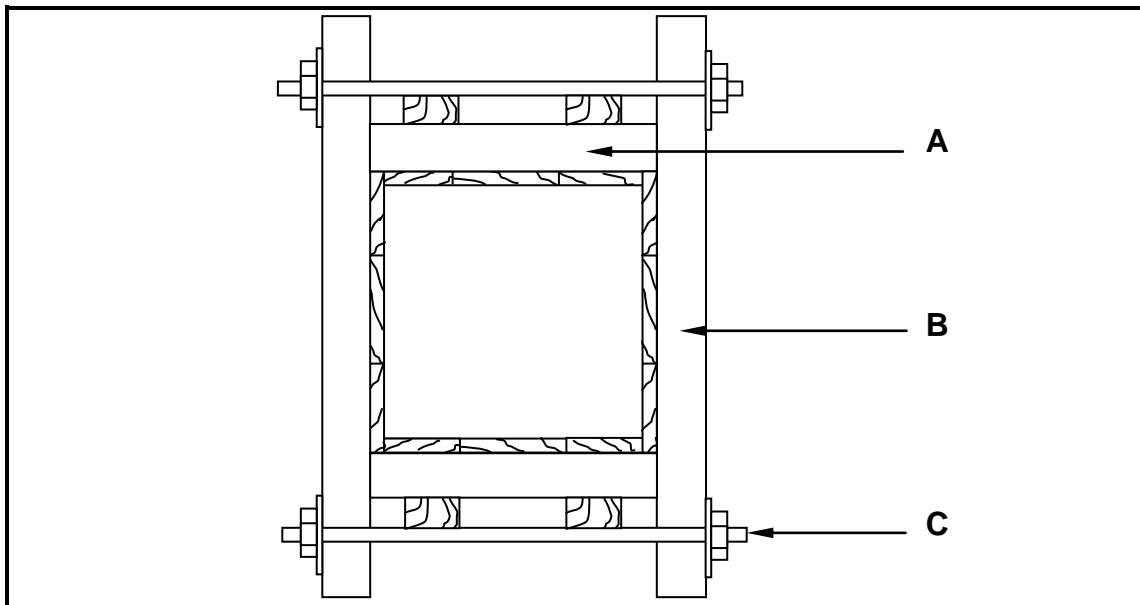

FIGURE 5.4
5.4 FIGURE 5.4 below shows the formwork for a square concrete column. Study the picture and label parts **A**, **B** and **C**.